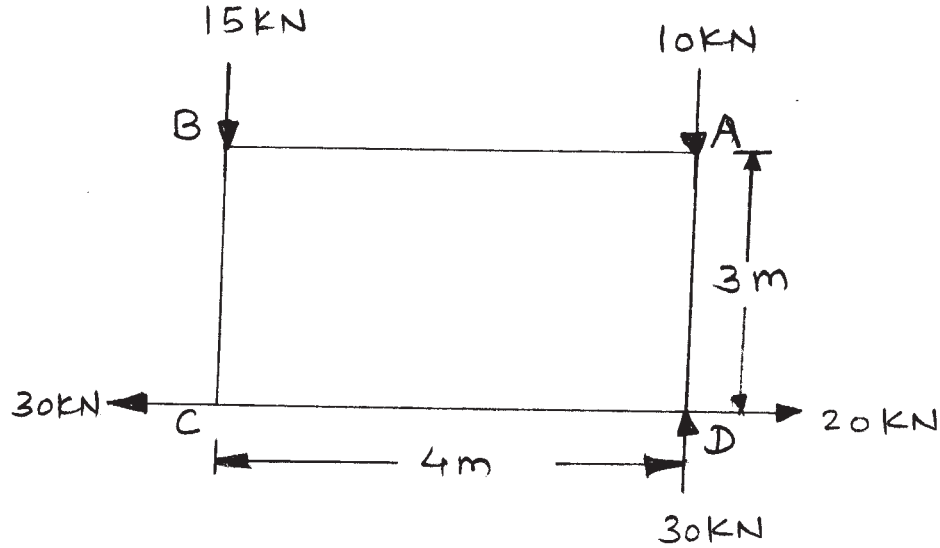

Fig. No. 2
- a) Calculate the moment about point B for the force system as shown in Fig. No. 2.